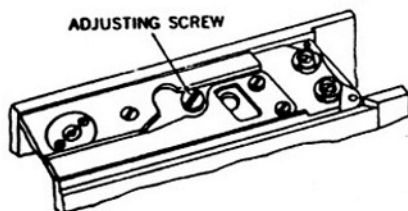

Figure 4-3. Brake Adjusting Screw.
- (1) If the positions of the curtains do not meet the requirements of (2) and (3) above, reset the adjusting screw (fig. 4-3).